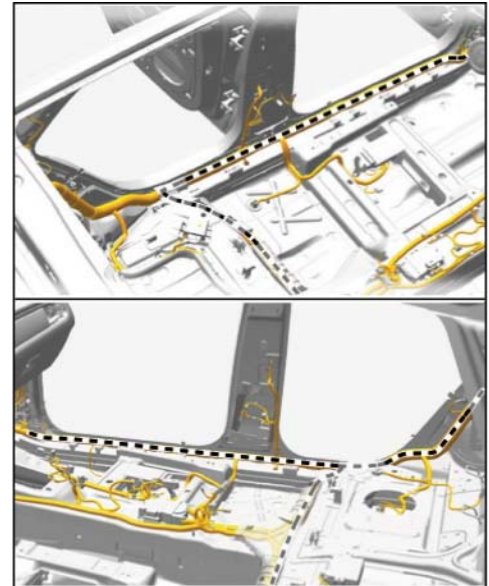

Figure 6
- 2.3 Route electric wire harness as follows (⇒ *Figure 6*):